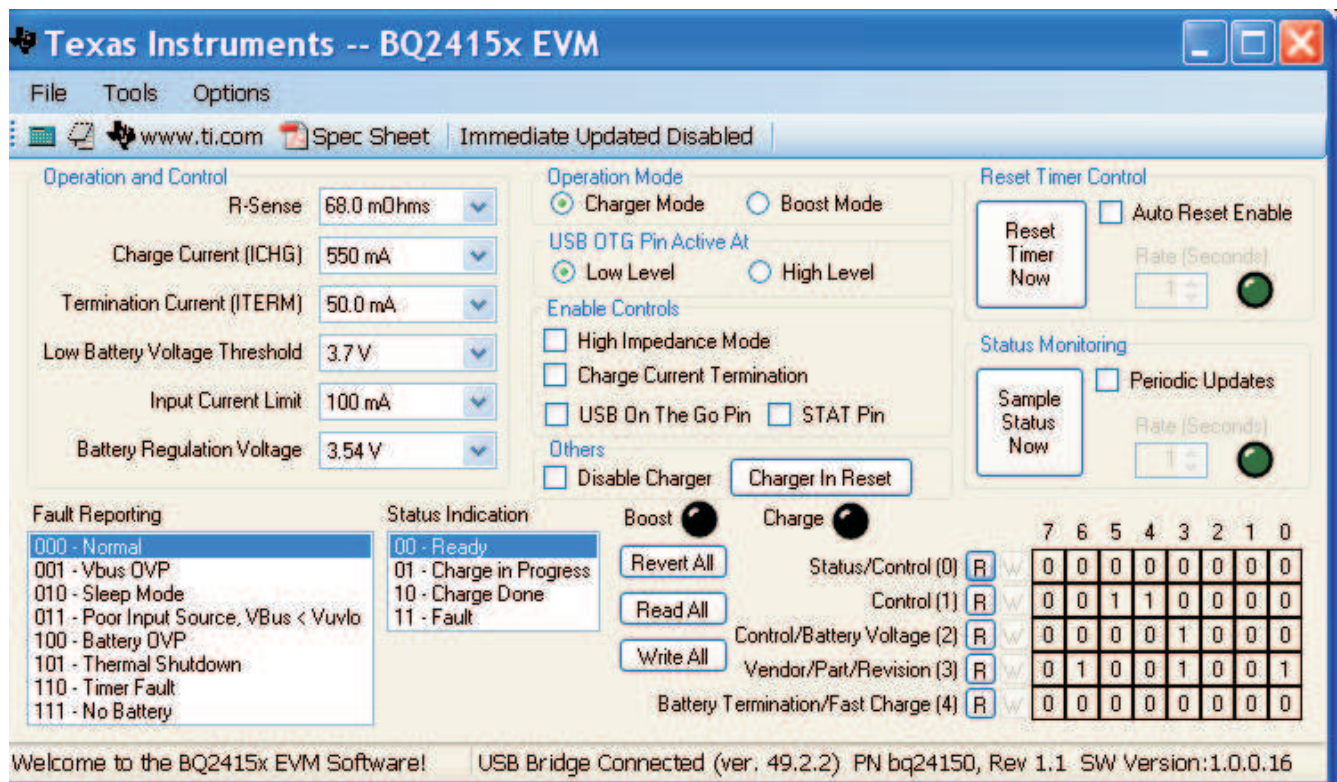

Figure 3. Main Window of the bq2415x Evaluation Software
- (H) Turn on the computer. Open the bq2415x evaluation software. The main window of the software is shown in Figure 3.